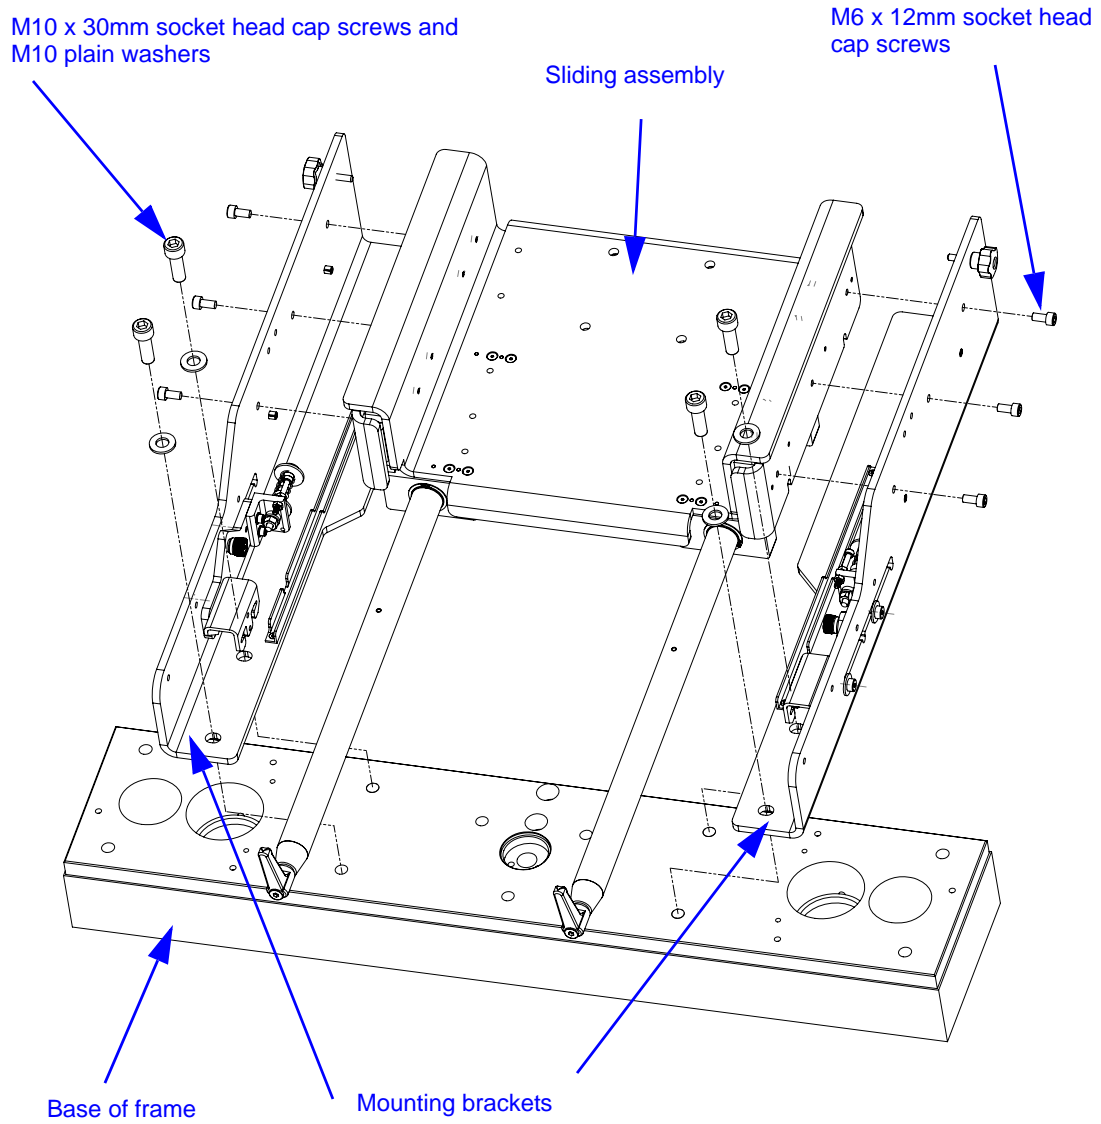

Figure 7. Mounting Bracket Attachment Screws (Electromechanical frames)
- b. The mounting assembly consists of three components; a sliding assembly and two mounting brackets (see Figure 7 on page 24).
- a. The mounting assembly consists of three components; a sliding assembly and two mounting brackets (see Figure 7 on page 24).